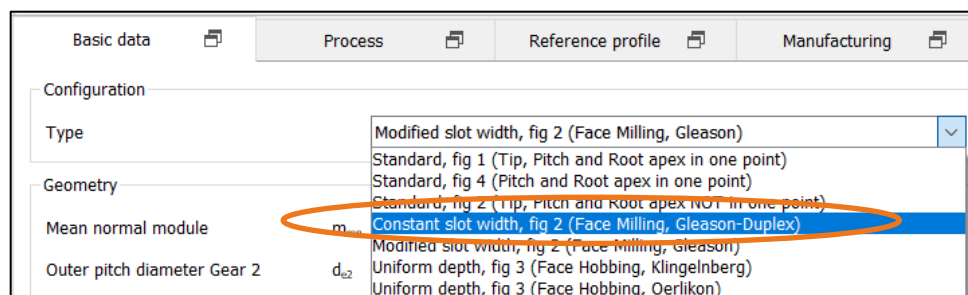

Figure 19. Selecting the «Constant slot width» type for duplex bevel gears
1. In «**Basic data**»→ «**Type**» select the «**Constant slot width**» type (see Figure 19). The pinion has a constant space width because both flanks are created in the same manufacturing run.